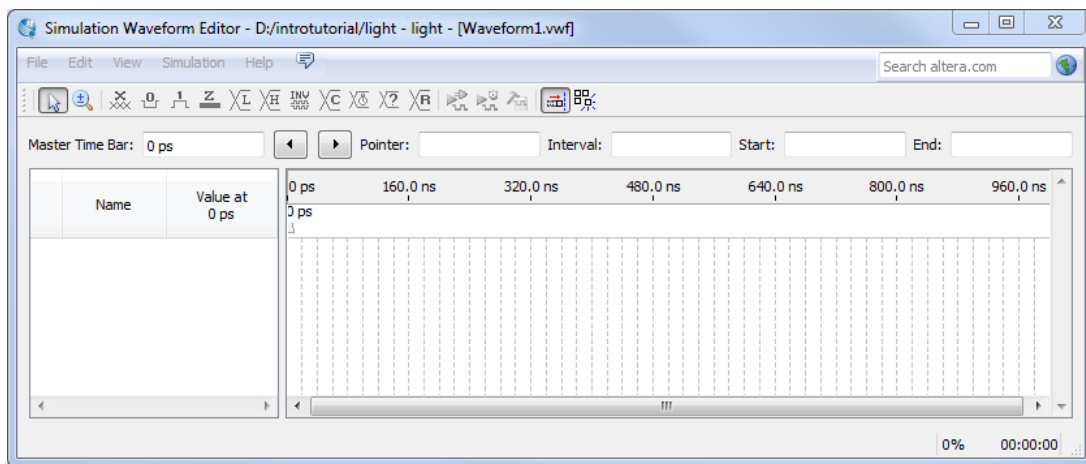
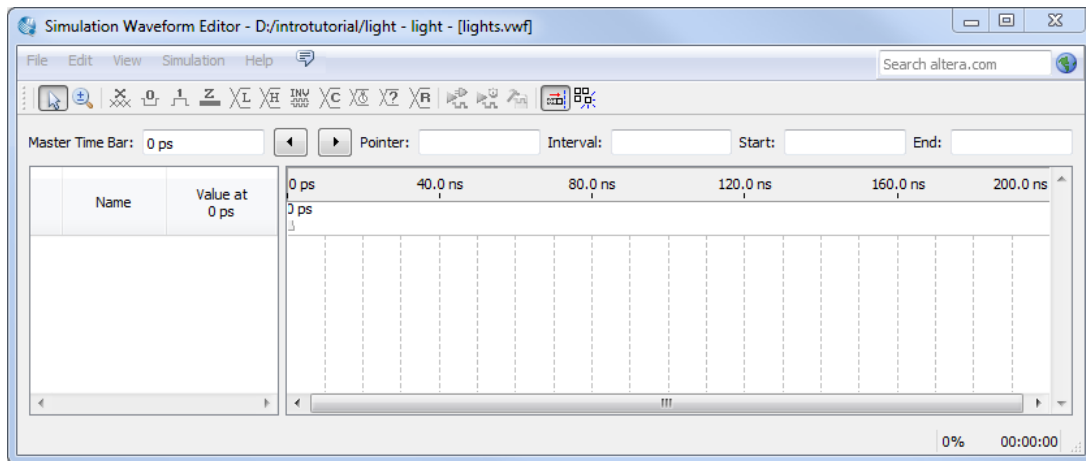

Figure 29. The Waveform Editor window.
Figure 30. The augmented Waveform Editor window.
2. The Simulation Waveform Editor window is depicted in Figure 29. Save the file under the name *light.vwf*; note that this changes the name in the displayed window. Set the desired simulation to run from 0 to 200 ns by selecting Edit > Set End Time and entering 200 ns in the dialog box that pops up. Selecting View > Fit in Window displays the entire simulation range of 0 to 200 ns in the window, as shown in Figure 30. You may wish to resize the window to its maximum size.